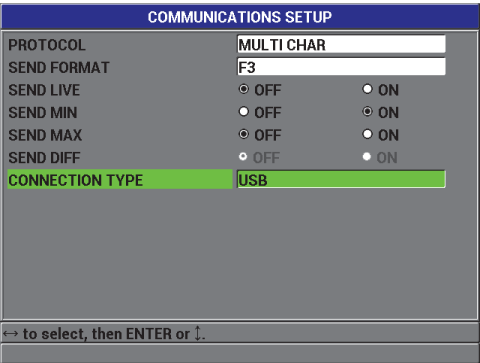

Figure 8-1 The COMMUNICATIONS SETUP screen — USB
5. In **COMMUNICATIONS SETUP** screen, set the **CONNECTION TYPE** to **USB** (see Figure 8-1 on page 138).